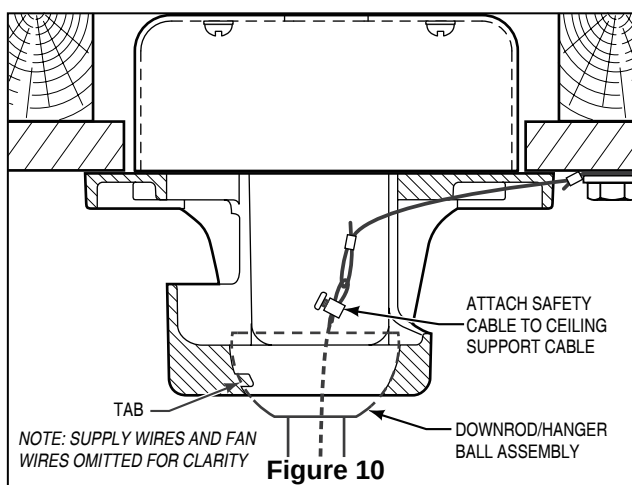

Figure 10
- ☐ 4. Carefully lift the fan and seat the downrod/hanger ball assembly on the hanger bracket that was just attached to the outlet box. Be sure the groove in the ball is lined up with tab on the hanger bracket (Figure 10)
- ☐ 5. Attach the safety cable to ceiling support cable. Slide cable clamp onto safety cable (from fan). Place the end of cable through the loop of ceiling support cable. Pull as much cable through loop as possible. Feed end of cable into clamp hole and firmly tighten screw (Figure 10).